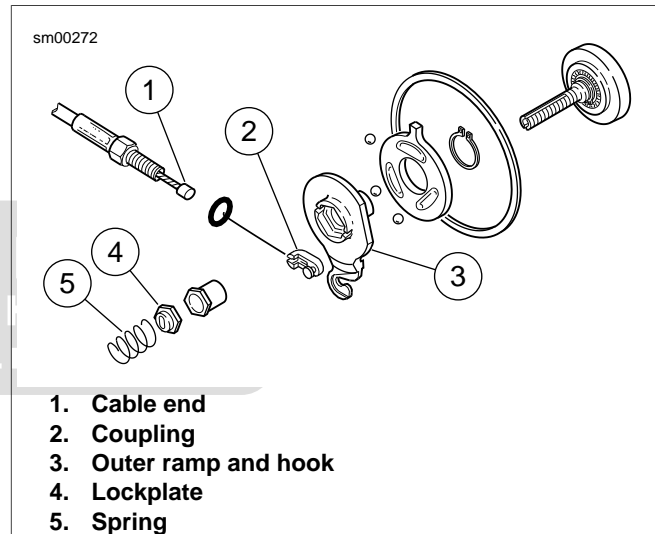

Figure 5-6. Clutch Release Mechanism
6. See Figure 5-6. Fit coupling (2) over cable end (1) with rounded side inboard and the ramp connector button outboard. With retaining ring side of ramp assembly facing inward, place hook of ramp (3) around coupling button and rotate assembly counterclockwise until tang on inner ramp fits in slot of primary cover.